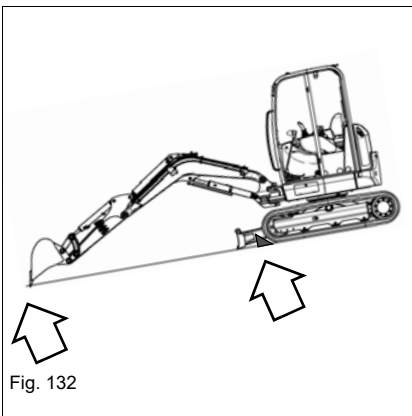

Fig. 132
- Secure the vehicle with wheel chocks (see Fig. 132).